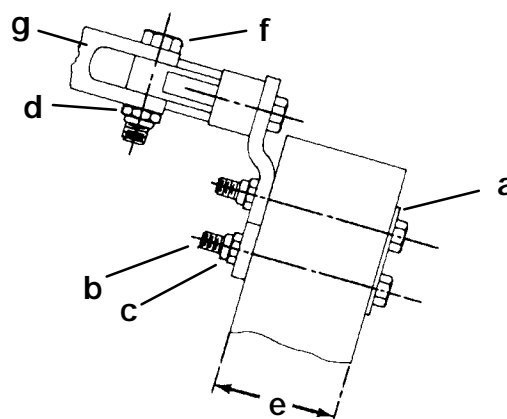

Figure 2
7. Use a marine-type sealer on three 5/16 in. x 3-1/4 in. (7.9mm x 82.6mm) bolts. Secure attaching kit to transom, using transom backing plate, 3 bolts (with sealer) and 3 locknuts, installed as shown in Figure 2. Torque lock nuts to 10 lb. ft. (13.5 N·m).